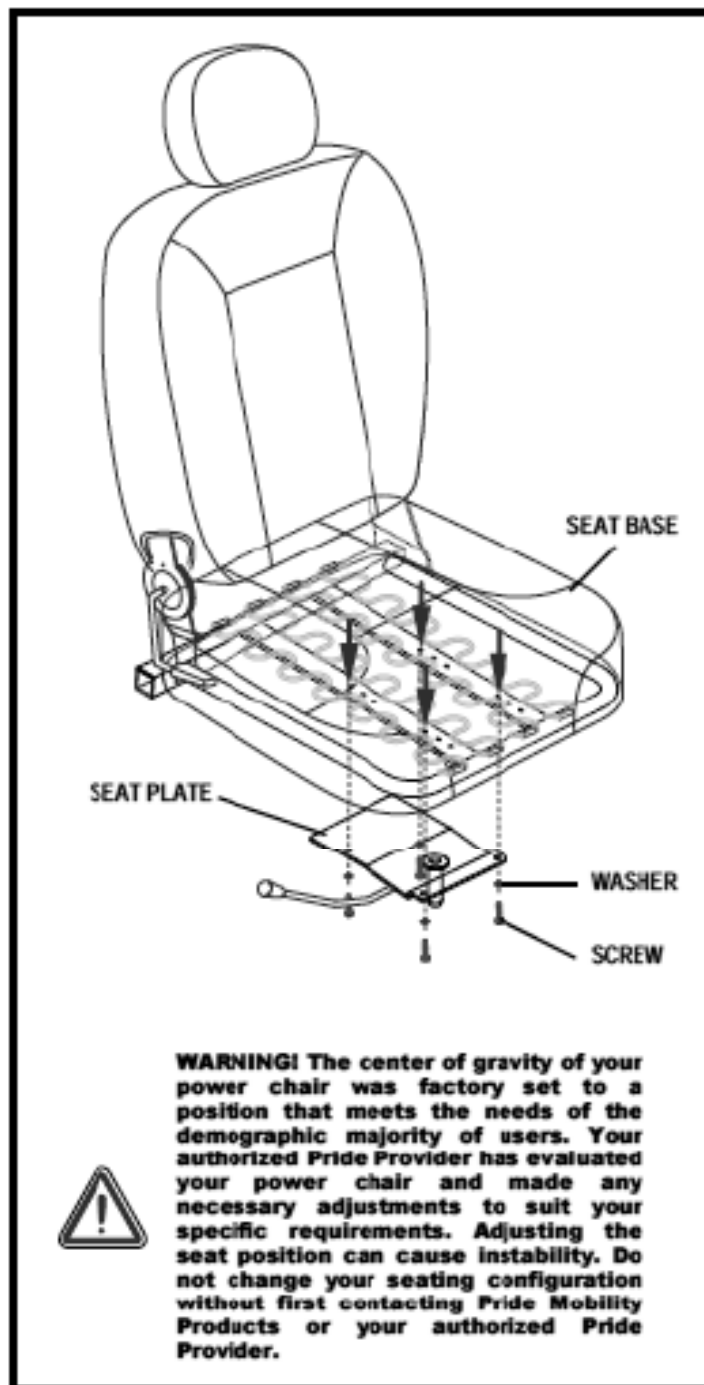

Figure 13. Seat Position Adjustment
5. Remove the screws and washers from the bottom of the seat plate. See figure 13.